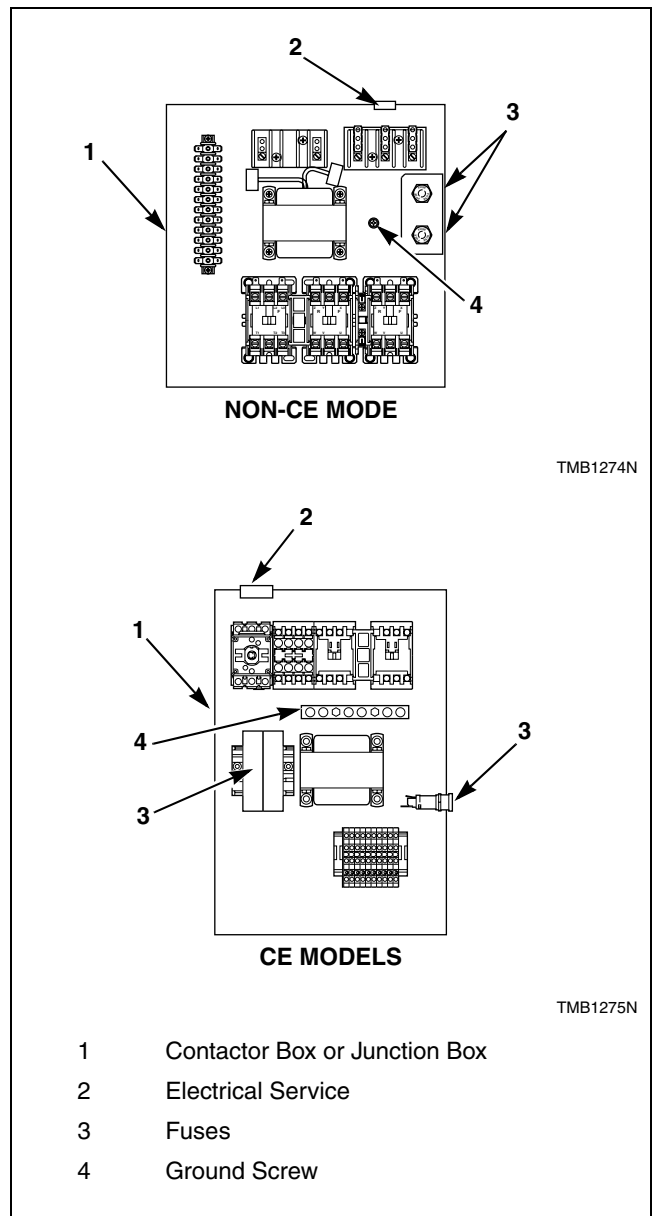

Figure 15
2. Connect conduit-encased leads to the disconnect switch or circuit breaker. Connect wire leads to the appropriate labeled terminal on the terminal block. The ground wire must be connected to the ground connection as shown in *Figure 15*.